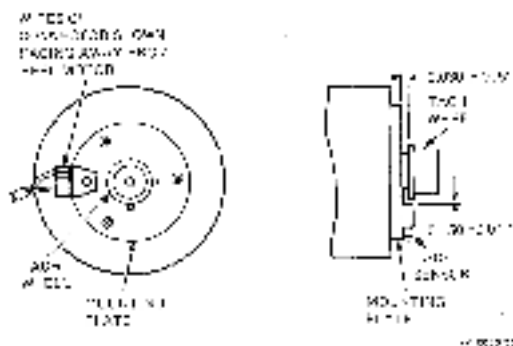

Figure 4-11 Tachometer Wheel and Sensor Alignment
2. Assemble the sensor and tach wheel (from steps 6 and 7 of Removal) onto the motor mounting plate and shaft as shown in Figure 4-11 and adjust them (refer to Paragraph 4.11, Replacement).
5. Attach connector W3P5 to the tach sensor pins as shown in Figure 4-11.
1. Insert the tachometer wheel on the motor shaft. Position the tachometer for a 0.030 - 0.035 inch clearance between the tachometer and the sensor mounting plate (Figure 4-11).